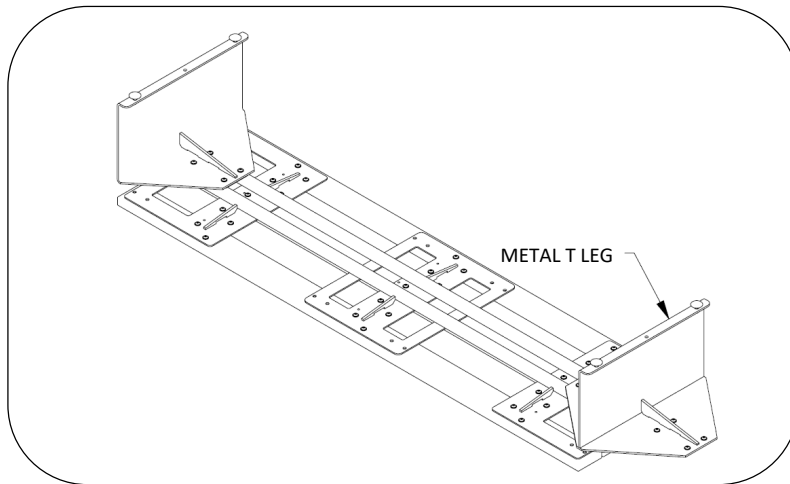

Fig. 2 – install metal legs to bench top, adjoining legs
5. Attach T leg support with 4 screws and washers, see Fig. 2.